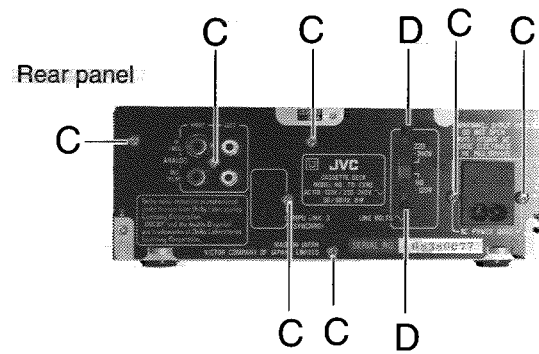

Fig. 3
■ Detaching the rear panel (Fig. 3)
2. Remove the seven screws (C) and two screws (D) securing the rear panel.